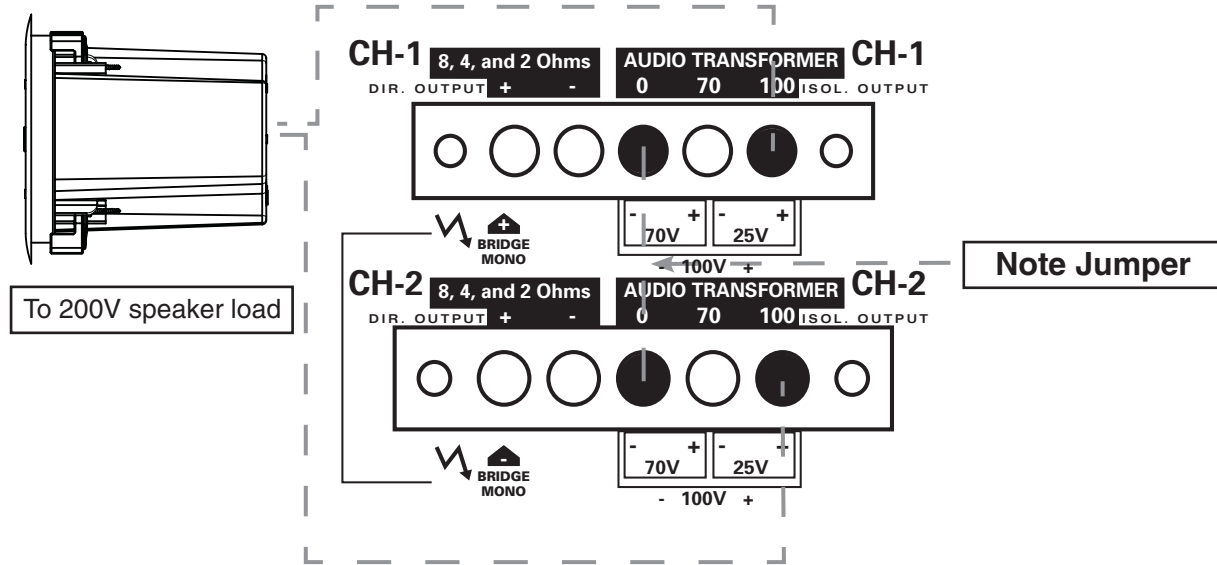

Figure 12
- **200V Operation** - Connect the positive lead of the speaker load to the channel ONE 100V positive "+" terminal, the negative speaker lead connects to the channel TWO 100V positive "+" terminal. Connect a suitable jumper wire between the two terminals labeled "0." Consult your local codes to determine if Class I wiring is required (Figure 12).